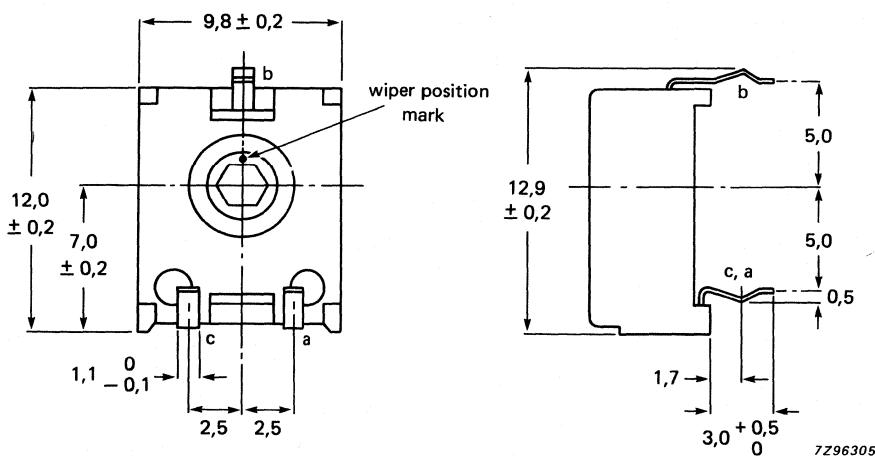

Fig. 4 Horizontal mounting.
**Mechanical angle of rotation** — The full extent of the travel of the actuating device of a rotary potentiometer between the end stops (Fig. 4).
**Effective angle of rotation** — That angle throughout which the resistance law of a rotary potentiometer is applicable (Fig. 4).
**Switching angle** — That angle over which the switch of a rotary potentiometer has to be actuated from the off to the on position, or vice versa (Fig. 4).
**Backlash of the rotary switch** — That angle over which the spindle of a rotary potentiometer has to be rotated before actuating the switch from the off to the on position (Fig. 4).